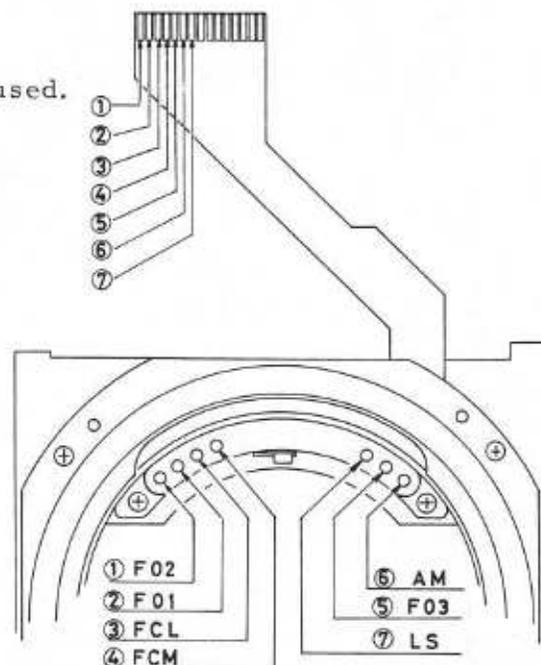

Fig. 9
2. Check continuity between Connector pin (A121) and Connector board (T1) with a circuit tester. Refer to Fig. 9.